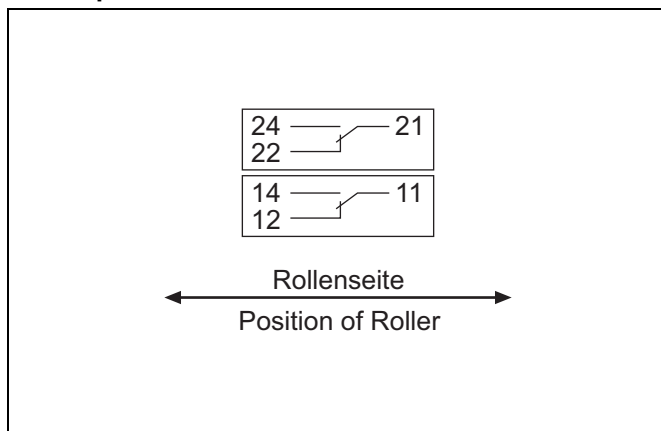

Fig. 5-7: Connection diagram in the belt misalignment switch cover
- Connect the connection cable to the terminals of the switch (7) in the cover (2) of the belt misalignment switch according to the connection diagram (see figures 5-7 and 5-8).
- Connect the protective conductor (max. 2.5 mm^2) to the protective conductor connection M 4 (8). The factory setting for the switch points of the belt misalignment switches is 10° in both directions. The